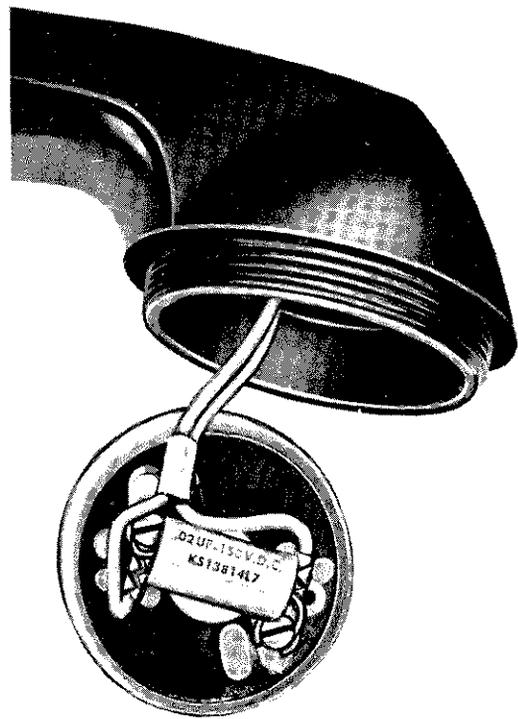

Fig. 12 — KS-13814, List 7 Capacitor,
4.09 The KS-13814, List 7 capacitor may be used to bypass the 44A varistor on a U1 receiver unit as shown in Fig. 12. Place the capacitor against the varistor, keeping the capacitor leads as short as possible.